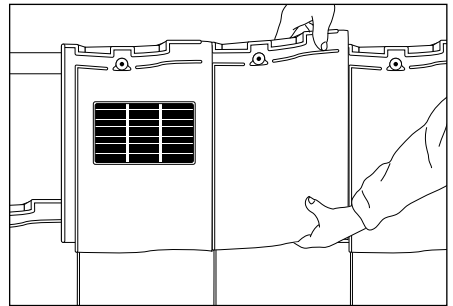

Fig 5
- 5 Insert vent tile and position adjacent roof tile to cover spigot aperture. Mechanically fix using Solofix tile clips and nails (Fig. 5).